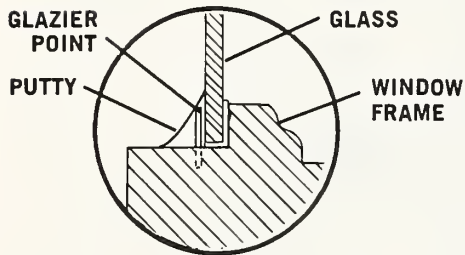

Fig. 7
7. Fill the groove with putty or glazing compound. Press it firmly against the glass with putty knife or fingers. Smooth the surface with the putty knife. The putty should form a smooth seal around the window. (Fig. 7)